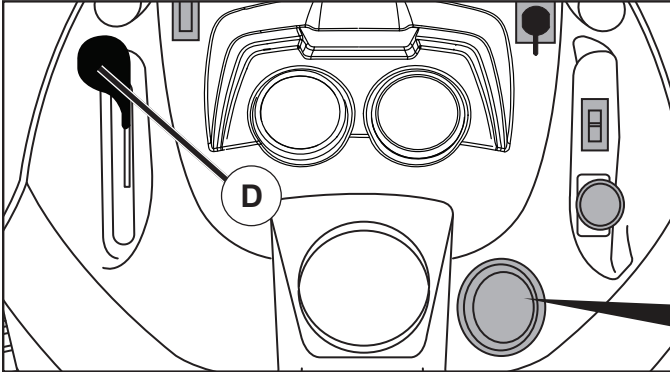

Fig. 7
TO USE THROTTLE CONTROL (D) (See Fig.7)